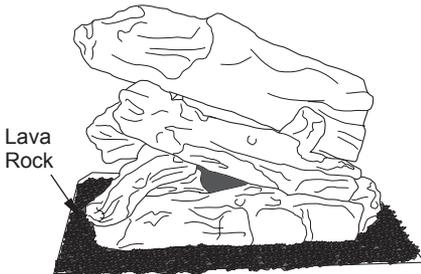

Figure 29 - Installing Lava Rock
2. Place lava rock around base of burner. Make sure burner ports are not covered (see Figure 29, page 20).